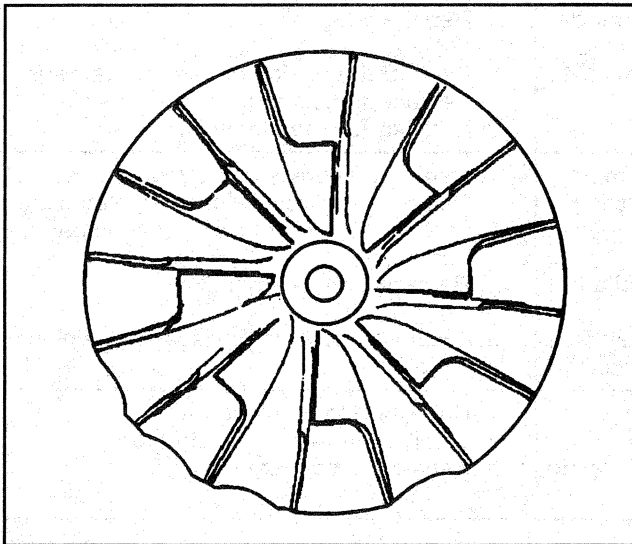

Figure 5—Normal Compressor Wheel
- The compressor wheel blades (Figures 5 through 8). There should not be any bent, broken, eroded, or cracked wheel blades.